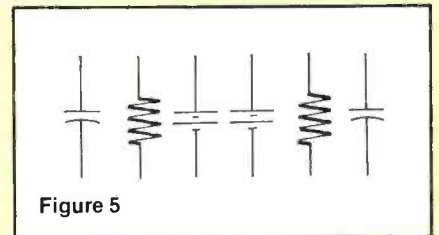

Figure 5
To understand this capacitor, you must remember that the capacity of a capacitor is increased as the plates are moved closer together. To make the one million farad capacitor, two pieces of solid copper wire are placed end to end as shown in Figure 5. The air gap between them serves as the dielectric. By moving the plates closer and closer, a point will eventually be reached where the capacity is one million Farads. (It can be shown mathematically that the capacity becomes infinite if they are allowed to touch, but I want to stop short of allowing them to actually come together.)
10. Draw lines in Figure 5 to show how wires can be connected to make a positive and negative supply for an operational amplifier.
Figure 5 shows one method of designing a voltage regulator for a TV receiver. A comparator circuit compares the fixed reference voltage against a sample of the regulator output voltage. Any voltage difference between the reference and the output sample voltages causes the duty-cycle circuit to vary the duty cycle. A lower output voltage calls for the relay to apply source voltage to the low-pass filter choke for longer periods of time during each operating cycle. Conversely, an excessive out-
Although the Figure 5 circuit could produce adequate voltage regulation, it has several limitations. Relays are limited (usually) to operation cycles of only several hundred cycles because of their considerable inertia. Therefore, regulation could not follow nor correct rapid variations of load
Figure 6A block diagram shows how NAP has solved the problems with the Figure 5 regulator. A
Figure 5 A description of how various duty cycles changed the average dc voltage and the filtered voltage was given in Figure 4. However, the low-pass filter shown cannot supply much current without excessive voltage drop in the resistor. (A) This schematic shows how a filter choke can be substituted for the resistor of a low-pass filter when higher currents are needed. Voltage at the filter capacitor varies directly with the duty cycle. (B) A relay and a duty-cycle adjusting circuit could function as a pulse-width regulator. However, as explained in the text, it has several drawbacks.